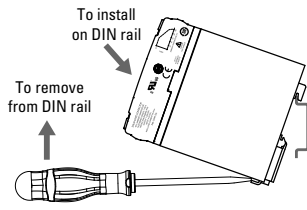

fig. 1 SSR mounted on DIN rail
- Install the relay on the DIN Rail (as shown in **fig. 1**)